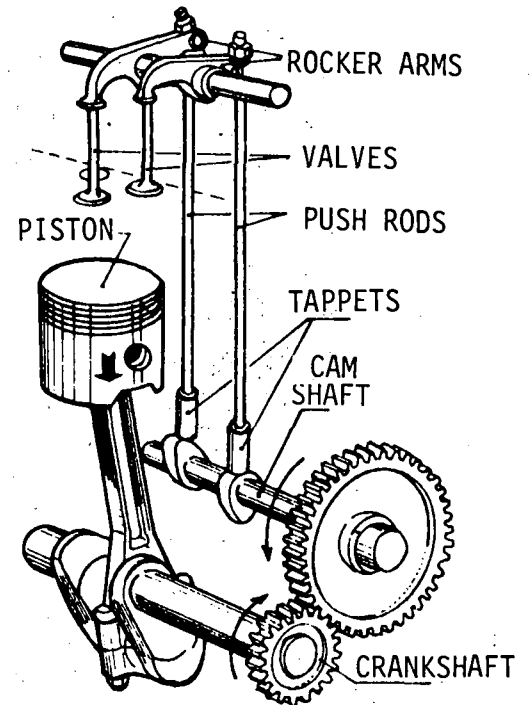
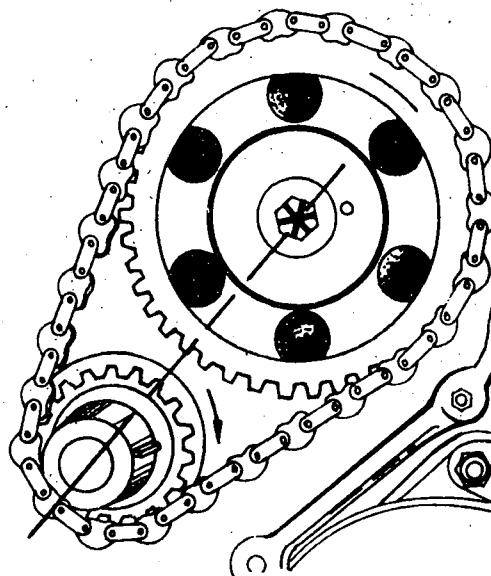

Fig. 1
Fig. 2
Depending on the operation of the camshaft, it may be: directly controlled or indirectly controlled. The direct control is carried out by means of gears, with direct intake from the crankshaft in which its rotation movements are in a opposite direction. (See fig. 1). The indirect control is carried out by means of a chain (fig. 2), and its revolutions are in the same direction.
- The camshaft and the tappets are situated in the block and the rocker arms and valves on the cylinder head. (See fig. 1).